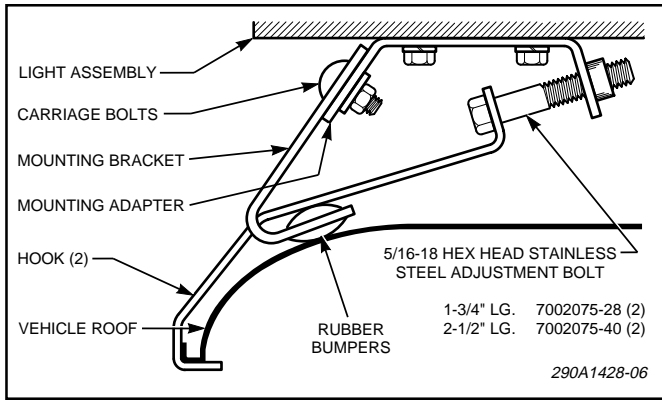

Figure 5.
b. Adjust both mounting bracket assemblies in or out until the rubber bumpers rest near the edge of the roof or gutter where the roof is most rigid (see figure 5).
d. See figure 5. Insert the hook into the opening in the center of the mounting bracket. Install the 1-3/4" or 2-5/8" stainless steel adjusting bolt (finger tight). Repeat on the other side of the Light Assembly.